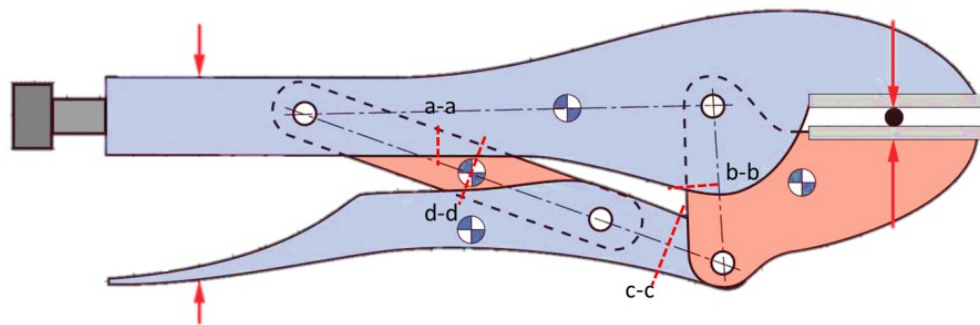

Figure 2 - Location of the edge cracks
- Assuming existing edge cracks at sections a-a to d-d in Figure 2, discuss which crack(s) may propagate under the given load?